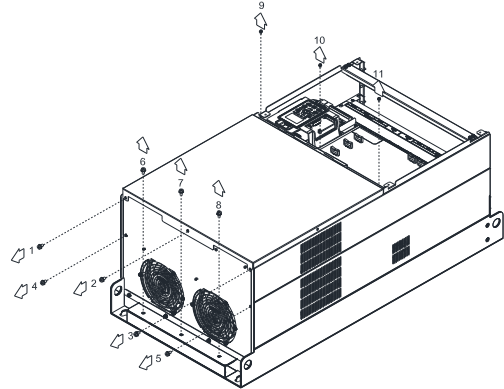

Figure 2
2. For 1~8 shown in the figure 2: Loosen the screws
3. For 9~11 shown in the figure 2: Loosen the screws and removes the cover. Screw M4 torque: 14~16 kg-cm / [12.2~13.9 lb-in.] / [1.4~1.6 Nm]